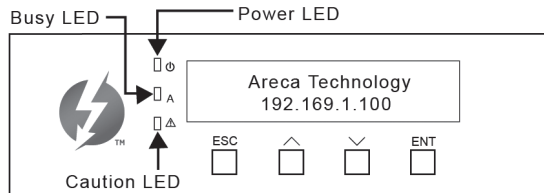

Figure 2-2, LCD Panel LED
There are a variety of status conditions that cause the RAID storage panel monitoring LED to light. The front panel LCD comes with three (3) status-indicating LEDs. The LEDs on the front panel are defined, from top to bottom, Power, Busy, and Caution, as shown in Figure 2-2.